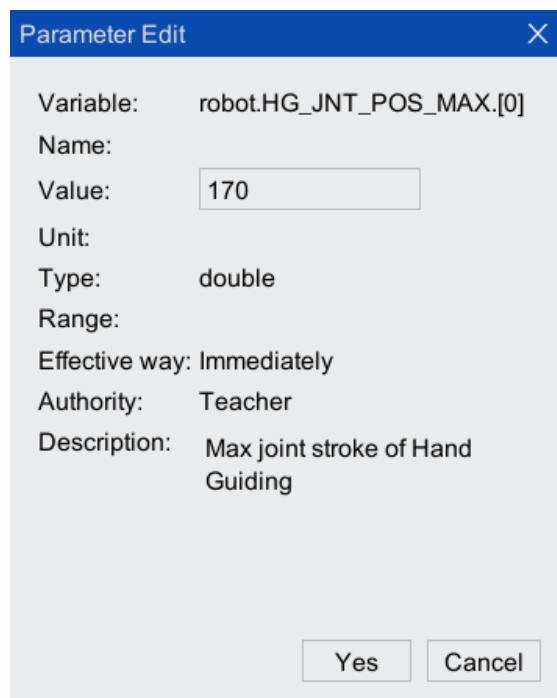

Figure 5-4 Soft limit parameter configuration
Step5. In the pop-up [Parameter Editing] interface (as shown in Figure 5-4), configure the parameters for [Value]. Parameter description is shown in Table 5-1.